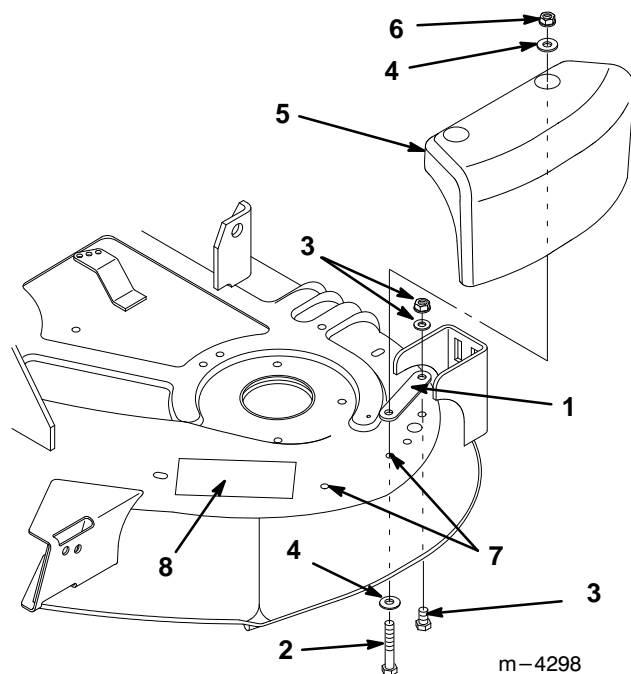

Figure 2
2. Using one of the two bolts, washers and nuts from the washout port, install the cover plate to the deck (Fig. 2). Place the bolt up through the deck (head to underside of deck) in the hole closest to the rear of the deck. Install one end of the cover to the bolt and secure loosely with the nut and flat washer.
3. Position the mower deck counterweight on the left-hand side of the mower so that it fits snugly against the side of the mower (Fig. 2).
4. Align the rear hole in the counterweight with the front hole in the cover plate (pivot the cover plate to align) (Fig. 2).
5. Using a punch in the holes of the counterweight, mark the locations for drilling (2) 13/32" holes. Remove the counterweight and drill the holes.
6. Secure the counterweight to the top of the mower deck with (2) 3/8 x 2 1/4" (57 mm) bolts, (4) 3/8" (10 mm) flat washers, and (2) 3/8" locknuts.
8. An extra decal is included with the bagger because the counterweight covers the original decal. Clean the mower deck surface and place this decal on the mower deck near, but not under the counterweight (Fig. 2).
9. Make certain to reinstall the washout port and (2) 3/8-16 x 3/4" (19 mm) bolts and (2) 3/8" nuts (furnished with vac bagger) in the two counterweight holes when the counterweight is removed.